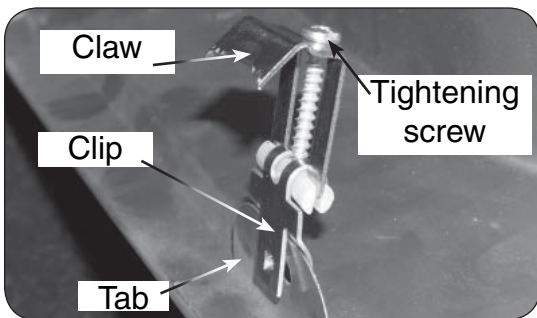

Fig. 4-2
3. Hook each clip claw under the inside bottom of the counter and tighten the screw until there is enough tension to hold the sink firmly down against the counter (see Fig. 4-2).